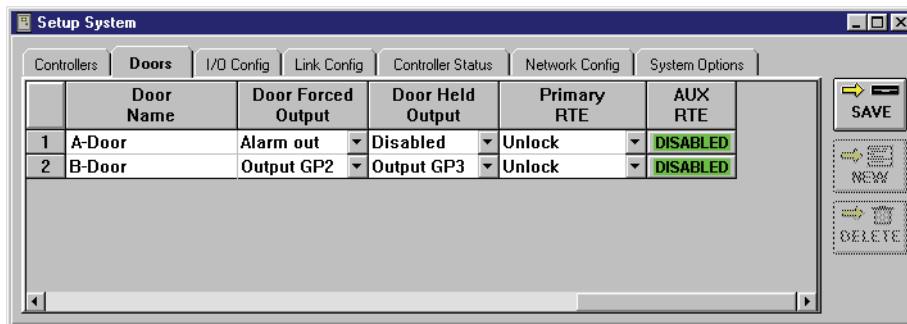

Figure 3-28: Set the Alarm Output Values
7. The resulting window should look similar to Figure 3-28.
1. To set the primary and auxiliary RTE values, click on the Setup ⇒ System pull-down menu or click on the  tool bar button. Then click on the Doors tab (see Figure 3-28 on page 40 of this section. If the “Primary RTE” and “AUX RTE” columns do not appear in the window, use the scroll bar at the bottom of the window and scroll to the right until these columns appear.